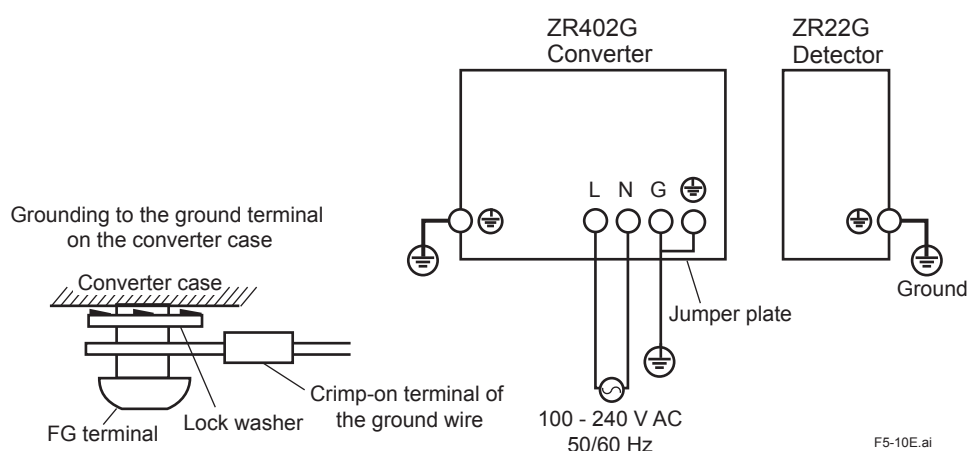

Figure 5.5 Power and Grounding wiring
- (1) Keep ground resistance to 100 Ω or less (equivalent JIS D style (Class 3)).
- (2) When the ambient temperature of the wiring installation is 75 to 150°C for the wiring of the detector, use wiring material with sufficient heat resistance.
- (3) When connecting the ground wiring to the ground terminal of the converter case, be sure that the lock washer is in contact with the case surface (see Figure 5.5.).
- (4) Ensure that the jumper plate is connected between the G terminal and the protective ground terminal of the converter.